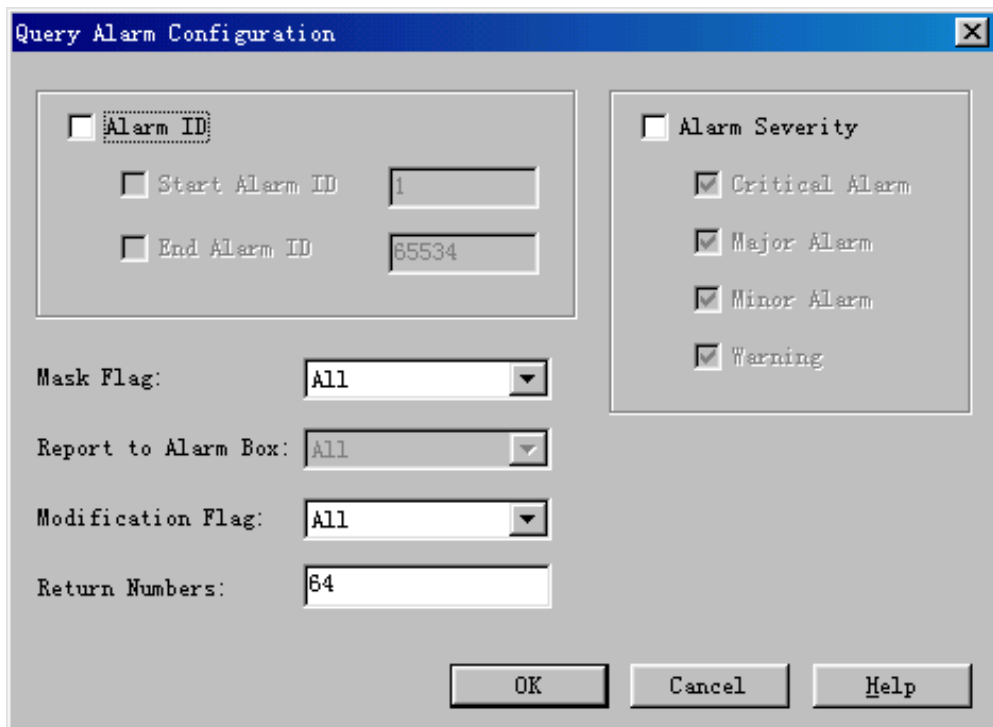

Figure 5-12 Query Alarm Configuration dialog box
- 1) Select **Management** -> **Alarm Configuration**. The **Query Alarm Configuration** dialog box opens up, as shown in Figure 5-12.